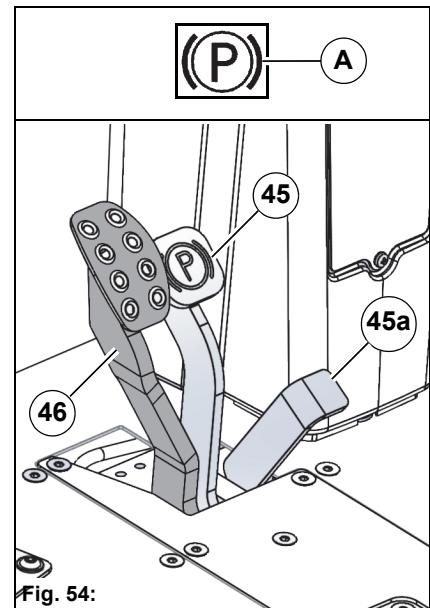

Fig. 54:
- The warning symbol **Fig. 54-A** appears.
- With the parking brake released the warning light **Fig. 54-A** goes out.